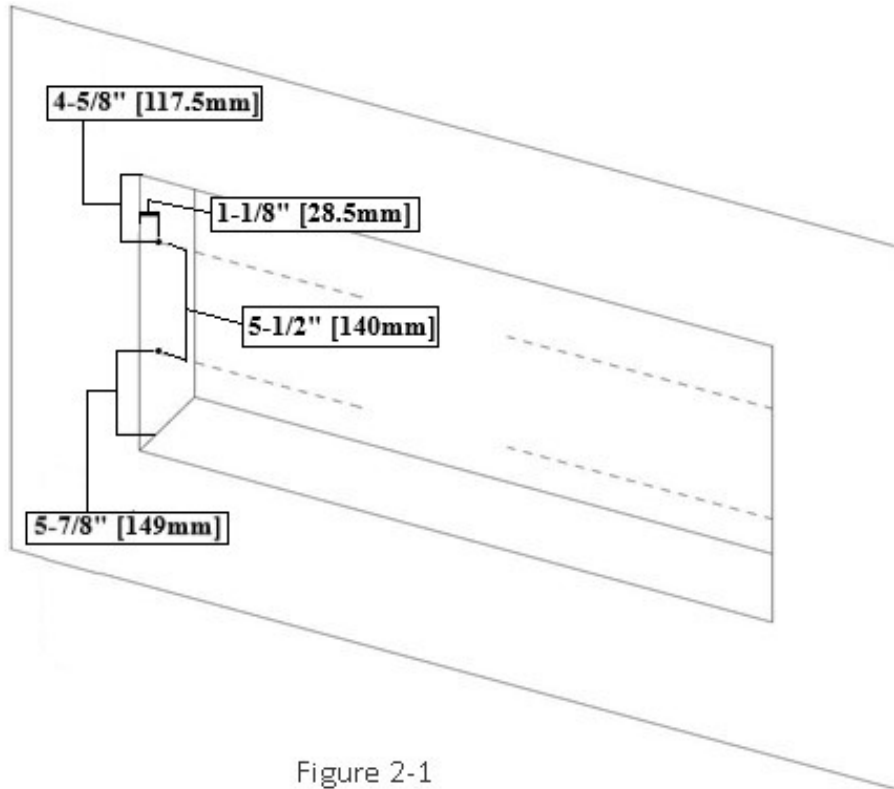

Figure 2-1
- B. Mark location for the screws according to the dimensions as below. **(Figure 2-1)**